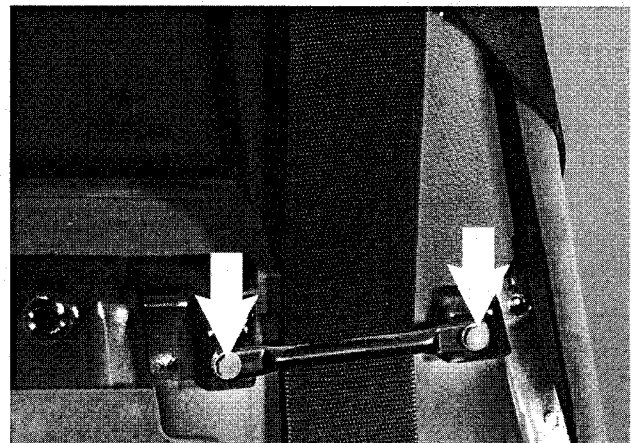

Fig. 6. B-pillar trim removed to show seat belt cross-bracket bolts (arrows).
6. Remove two bolts holding cross bracket to B-pillar. See Fig. 6.